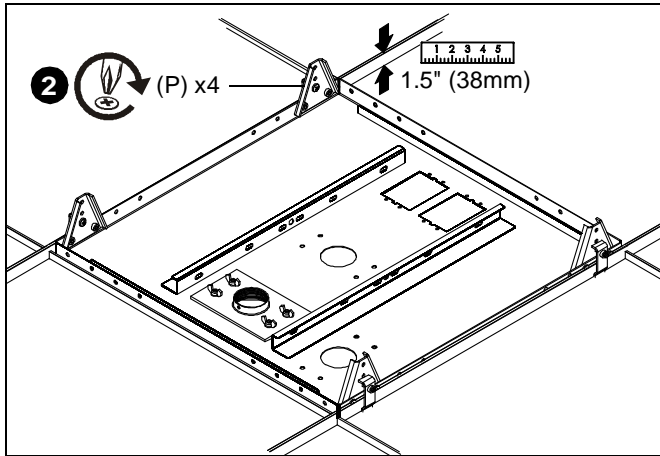

Figure 11
1. Reinstall ceiling tile (if applicable) and tray (A). Ensure proper orientation for location of hole.
2. Slip clamps over primary (1-1/2" (38mm) high) rails of ceiling framework (See Figure 11). Tighten screws (P).